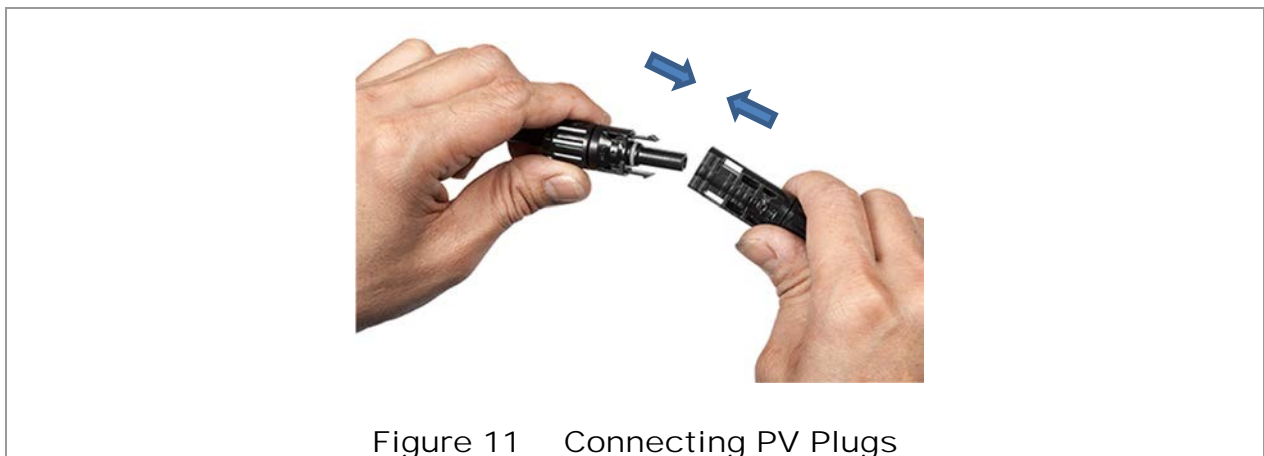

Figure 11 Connecting PV Plugs
1. Connect the male and female plugs, inserting them together by hand as shown in Figure 11.